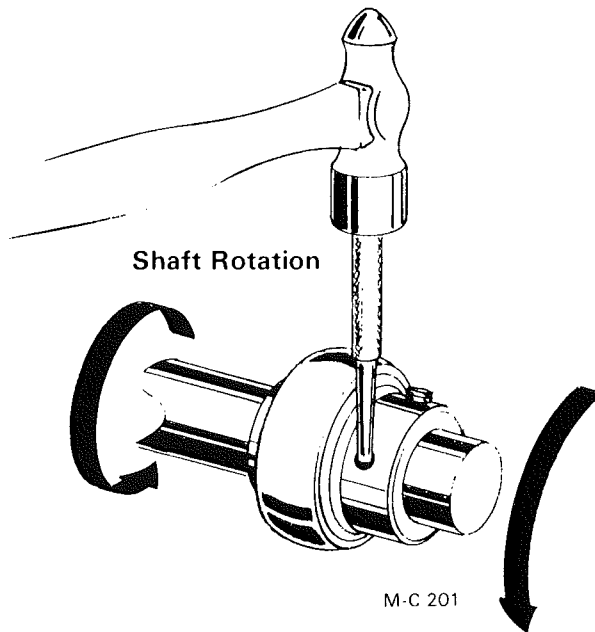

Figure 29
6. With the drift pin in the collar hole, strike in the direction of shaft rotation to lock, see Figure 29.